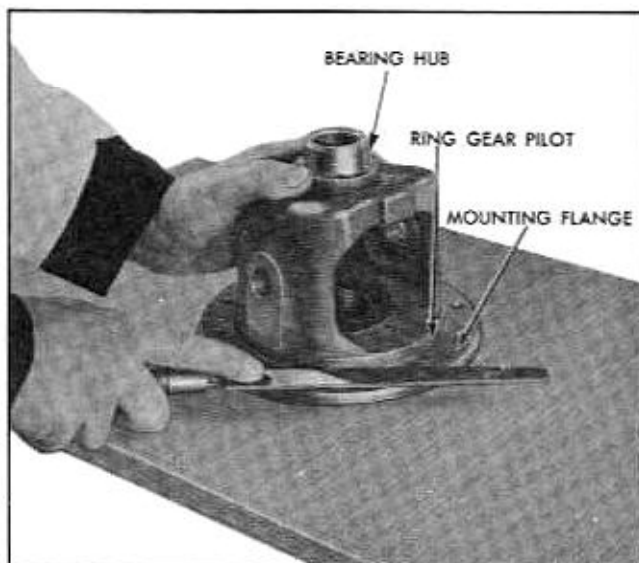

Fig. 4-44 Removing Burrs and Nicks From Mounting Flange
11. Inspect case, paying particular attention to ring gear mounting flange, ring gear pilot, and side bearing hubs. Remove nicks or burrs with mill file (Fig. 4-44).